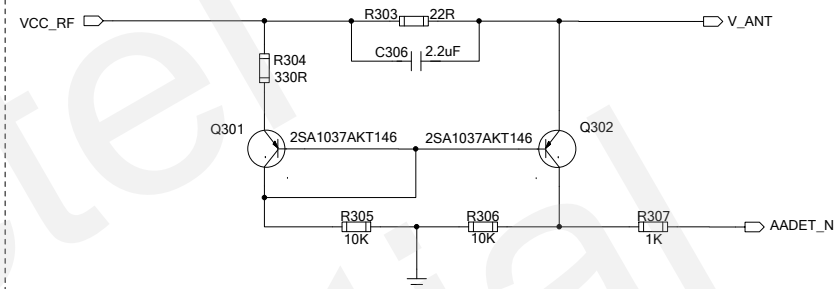

Figure 3
- Figure 3 shows the reference design for detection circuit. When active antenna is removed or not connected well, AADET_N will keep a high level to indicate the absence of active antenna. AADET_N will change to a low level when active antenna is connected well.